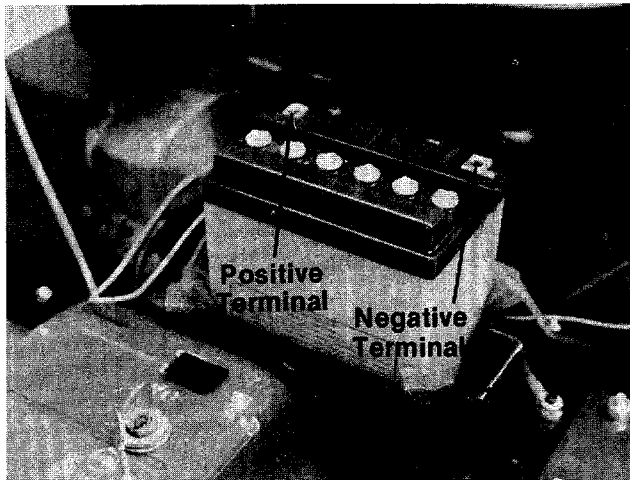

FIGURE 13.
9. Place the battery in the rider, so that the positive terminal is towards the right side of the unit. See figure 13.